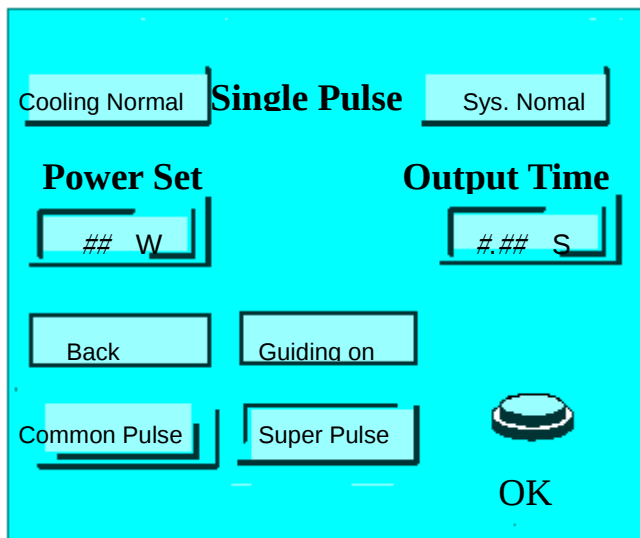

Figure 6
- 2、 Output time set: touch the # # S below output time, when heard signal, the figure key-board will be shown on the screen (same with Figure 6). Then you can set the time according to A6.